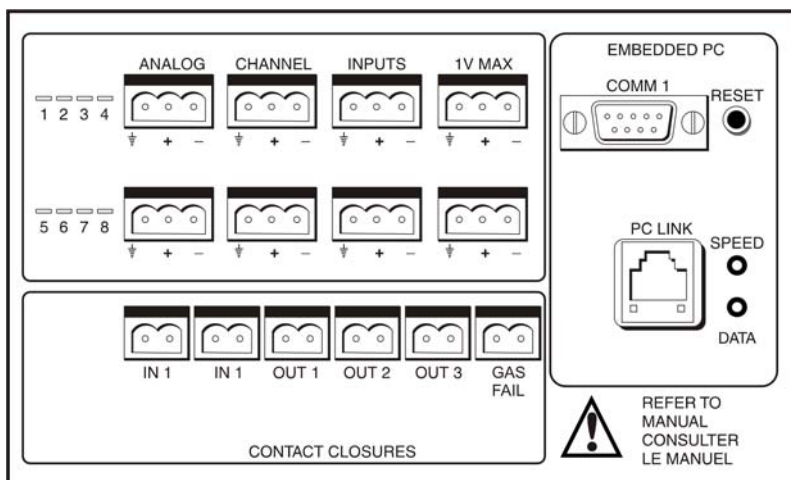

Figure 1-13 Rear Interface Panel
The rear interface panel (Figure 1-13) is found in the top-right on the rear of the instrument.
Eight analog input channel inputs (Figure 1-13) are available, for acquiring simultaneous data such as a UV detector output. The input differential voltage must not exceed  $\pm 1$  V.
- **OUT.** Three outputs, OUT 1 to OUT 3 (Figure 1-13), are provided to allow various peripherals to be connected to the instrument.
- **IN.** IN 1 and IN 2 inputs are provided (Figure 1-13) to allow an external device to start sample acquisition once the device has performed its function (typically sample injection).